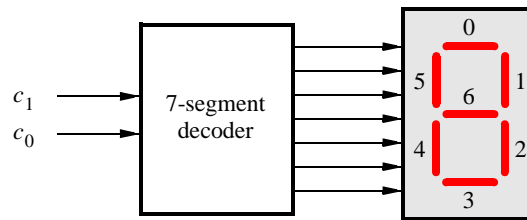

Figure 6: A 7-segment decoder.
The objective of this part is to display a character on a 7-segment display. The specific character displayed depends on a two-bit input. Figure 6 shows a *7-segment decoder* entity that has the two-bit input  $c_1c_0$ . This decoder produces seven outputs that are used to display a character on a 7-segment display. Table 2 lists the characters that should be displayed for each valuation of  $c_1c_0$  for your DE-series board. Note that in some cases the ‘blank’ character is selected for code 11.
2. Create a VHDL entity for the 7-segment decoder. Connect the  $c_1c_0$  inputs to switches  $SW_{1-0}$ , and connect the outputs of the decoder to the  $HEX0$  display on your DE-series board. The segments in this display are called  $HEX0_0, HEX0_1, \dots, HEX0_6$ , corresponding to Figure 6. You should declare the 7-bit port